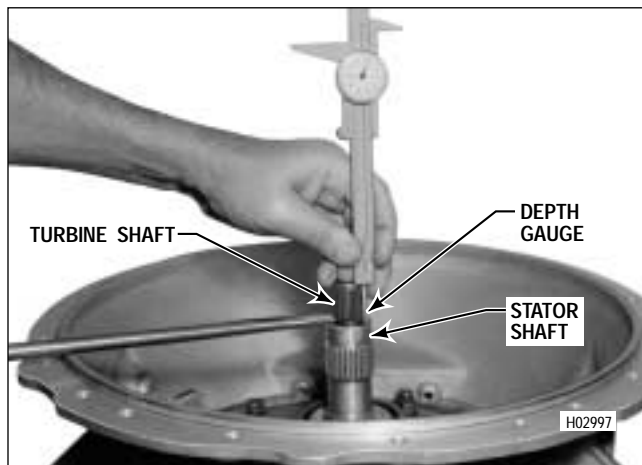

Figure 7–30. Measuring Turbine Shaft End Play
(2) Start the oil seal, lip first, squarely into the rear bore of the transmission housing.
(3) Using installer tool J 23631, drive the oil seal into the housing until the installer seats against the housing (Figure 7–31). The rear of the oil seal will be 0.51–0.55 inch (13.0–14.0 mm) forward of the brake mounting surface of the transmission housing when properly installed.
(4) Refer to Paragraph 3–16h for the installation of the output flange and retaining bolt and washer.